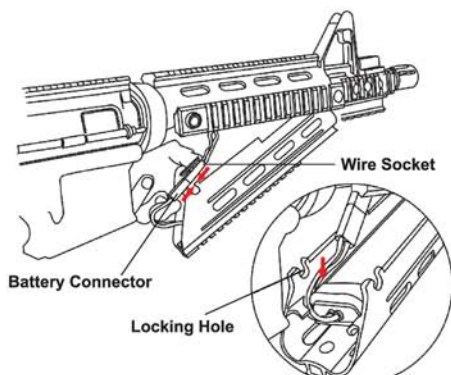

Fig 1.1
- Arrange wires to the side of the battery. Make sure the wires are sitting below the Locking Hole. (Fig 1.1)